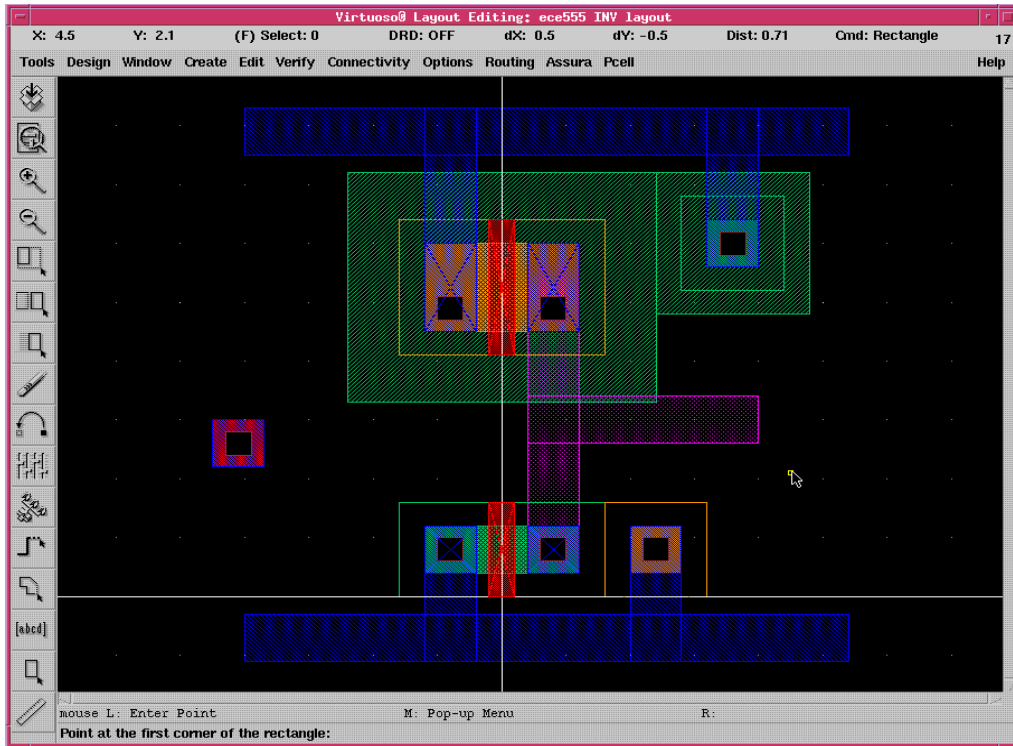

Fig. 11. Drain Connection using Metal 2
- Connect the drains of nmos and pmos with metal 2(drw) for output as shown in Fig. 11.